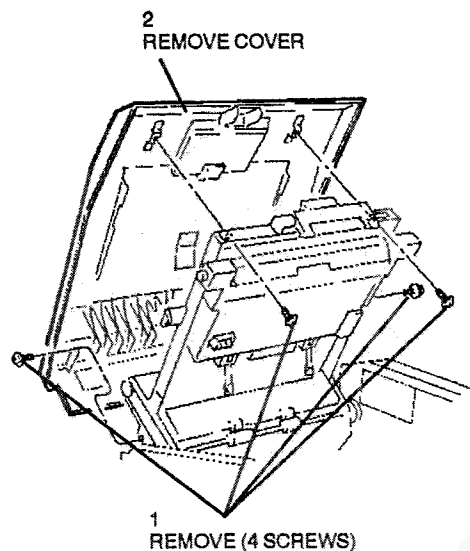

Figure 1. Top cover removal
3. (Figure 1), Remove the top cover assembly.